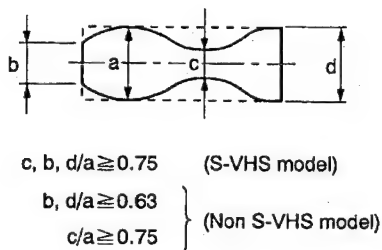

Fig. 2-1-81
- 3. Make sure the video envelope waveform (in its maximum output) meets the specification shown in Fig. 2-1-81. Again make sure the same by playing back the SP mode 2 MHz video signal on the alignment tape. If not satisfied, adjust as follows:
1. Make recordings and playback the tapes (E-180 and E-240) in SP and LP modes and make sure the playback output envelope meets the specifications shown in Fig. 2-1-81.